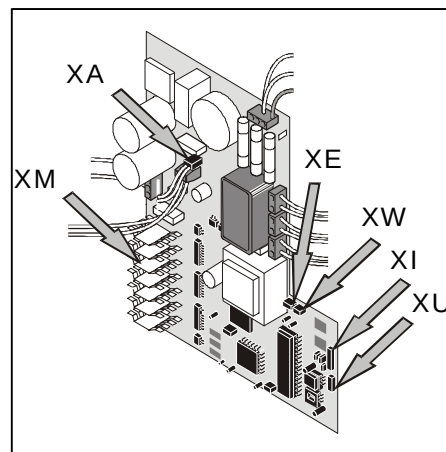

Figure 13
- Pull out all plug connectors as: earthing receptacle, motor XM (1,2 and 3), imbalance sensor XE, lid switches XA, speed detection XW, indication board XI and temperature sensor XU (Figure 13).
- Unscrew the fastening nuts (246) of the main board, remove the washers (247) and subsequently the board.
- Take the CPU (502) and NV-RAM (501/503) out of box (or re-use the old but troublefree components) and insert them into the empty sockets of the new main board